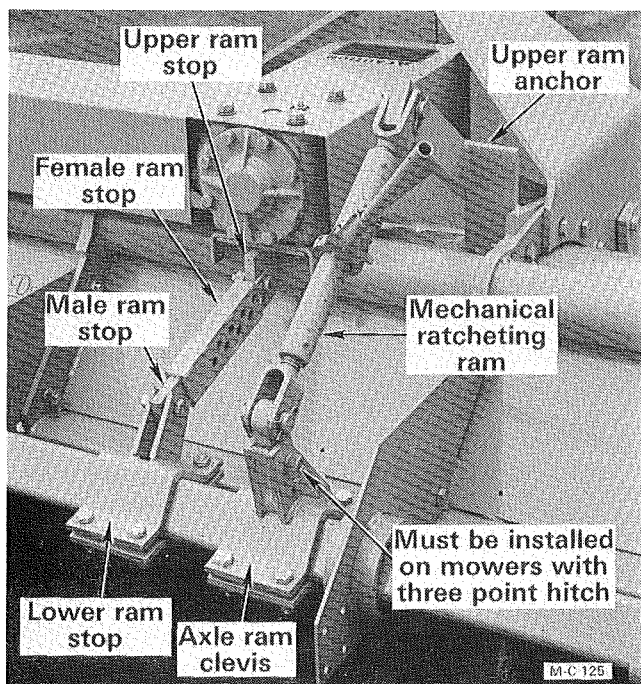

Figure 9
- Remove the two capscrews, hex-nuts and lockwashers from the pull hitch pole right support angle or the two top capscrews from the three point hitch right "A" frame bracket. Install the upper ram anchor on the inside of the front rib, see Figure 9. Use a ⅝-11 x 2" (Grade 5) hex-head capscrew in the top hole and two ⅝-11 x 2½" (Grade 5) hex-head capscrews in the other two holes. Secure with lockwashers and hex-nuts.
- Mount the axle ram clevis on the axle so it aligns with the upper ram anchor, see Figure 9. Install a mechanical ratcheting or hydraulic ram (to be supplied by the customer). A mechanical ratcheting ram is available, order M-C Part No. 001 8985.
- Remove the plate under the gear box and replace it with the upper ram stop, see Figure 9. Install the lower ram stop. Be sure it is aligned with the upper ram stop. Install the female and male ram stops as shown in Figure 9. Secure them with ⅝-11 x 2½" (Grade 5) hex-head capscrews, lockwashers and hex-nuts.
**IMPORTANT:** If the mower is equipped with a three point hitch, it is necessary to secure the axle ram clevis floating link so that the axle cannot rotate when the mower is lifted. Use a ⅝-11 x 2½" (Grade 5) hex-head capscrew, lockwasher and hex nut, see Figure 9.